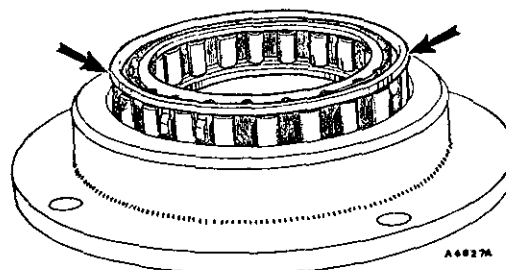

Fig. Fa.59
- (6) Reassemble the thrust bearing, intermediate spring ring, first gear free-wheel (lip facing outwards, see Fig. Fa.59), spring ring, and refit the circlip.